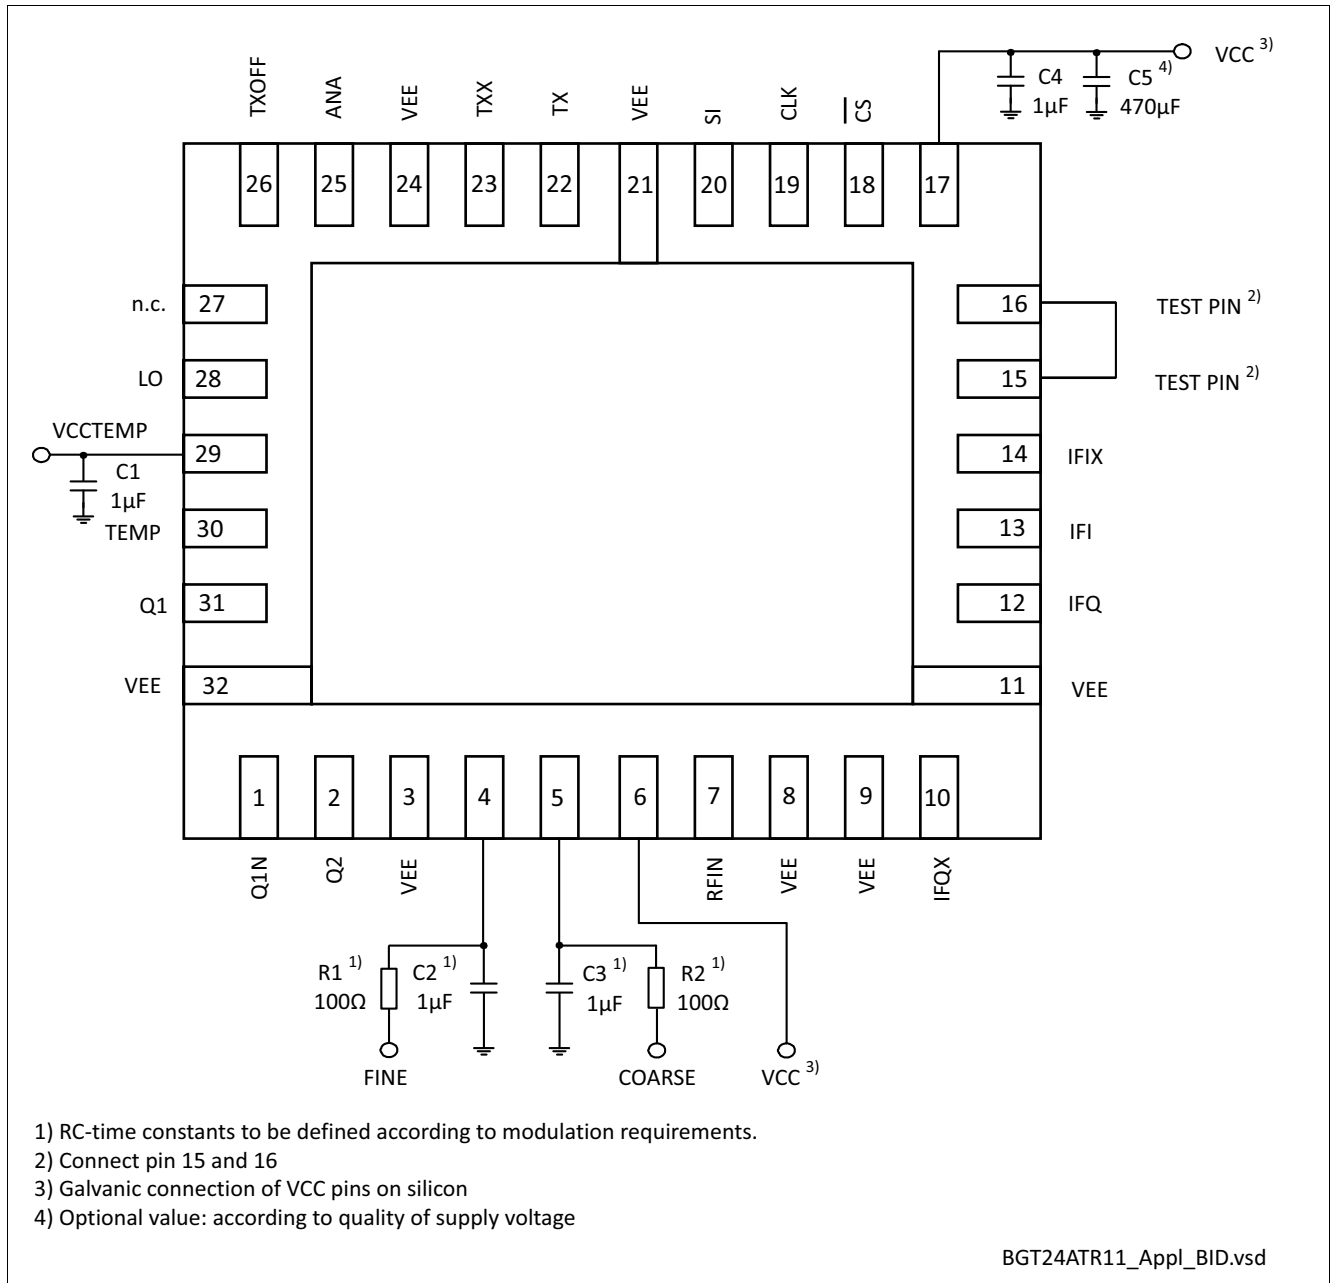

Figure 3 Application Circuit with Chip Outline (Top View)
1) Performance based on Application Circuit Figure 3 on Page 16, Cross Section of Application Board, Compensation Structures and Application Board Layout Figure 5 on Page 21ff and Footprint Figure 9 on Page 24
- 1) Performance based on Application Circuit Figure 3 on Page 16, Cross Section of Application Board, Compensation Structures and Application Board Layout Figure 5 on Page 21ff and Footprint Figure 9 on Page 24